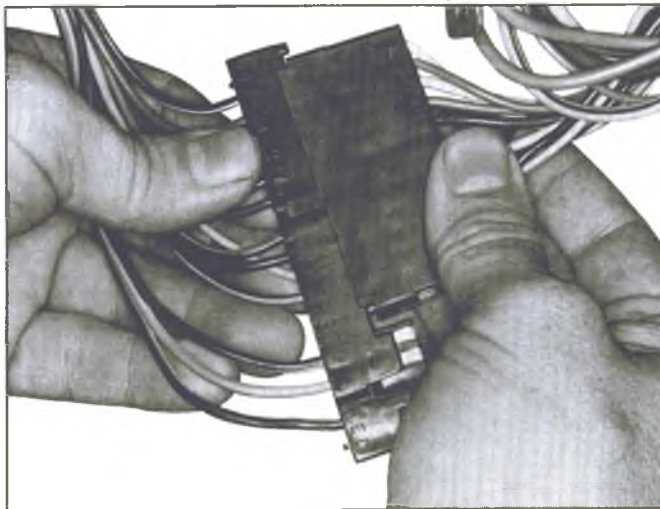

Fig. 118—Checking Harmonica Connector on Column
2. Check for secure connection at the chassis to switch connector. This is the harmonica connector on the column (Figure 118). Secure if loose. Check all individual wire terminals for proper seating in the connector bodies. Terminals should be locked in place.